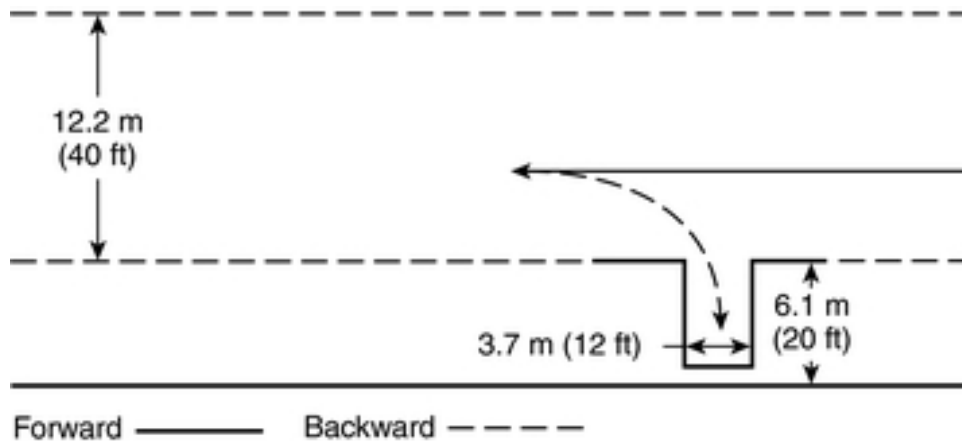

FIGURE A.4.3.2(a) Alley Dock Exercise.
A.4.3.2 The alley dock exercise can be used as practice for meeting or in the evaluation of this requirement. This exercise measures a driver's ability to drive past a simulated dock or stall, back the apparatus into the space provided, and stop smoothly. A dock or stall can be simulated by arranging barricades 12.2 m (40 ft) from a boundary line. These barricades should be 3.7 m (12 ft) apart, and the length should be approximately 6.1 m (20 ft). The driver should pass the barricades with the dock on the left and then back the apparatus, using a left turn, into the stall. The exercise should then be repeated with the dock on the right side, using a right turn. See [Figure A.4.3.2\(a\).]